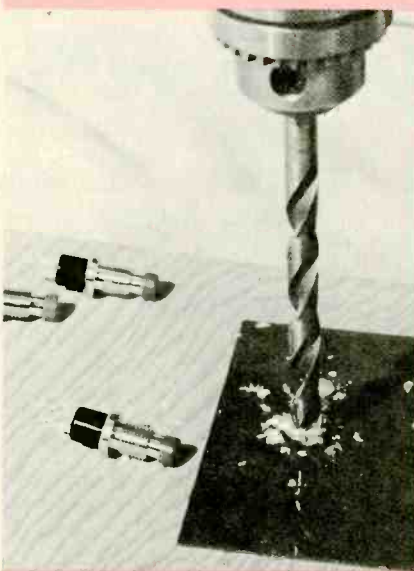

Fig. 3
Cutting holes is done with ordinary drill bits, as shown in Fig. 3. It is important to note that during the drilling operation, the sheet of plastic must be firmly held or clamped to a piece of wood to prevent it from riding up the bit and cracking. Square and rectangular slots can be made by drilling a small hole and cutting with a coping saw.
**Fig. 3** Acrylic is easily drilled by holding the plastic firmly to a wooden base. Here, holes are being drilled for pushbutton switches. Square and rectangular slots can be made by drilling a hole and cutting with a coping saw.
*Fig. 3. This audio distribution amplifier circuit features multiple isolated outputs and can be used effectively in electronic musical instruments to achieve special effects.*
In contrast to the multiple input mixer described earlier (Fig. 1D), the audio distribution amplifier circuit illustrated in Fig. 3 features multiple isolated outputs. It can be used effectively in electronic musical instruments for special effects as well as in PA, music distribution, and intercom systems requiring multiple drives for several power amplifiers to achieve high output levels. It also can be used in light organ, audio control, and test instrument designs. Abstracted from 20-page Bulletin CB-248, published by Texas Instruments, Inc. (P. O. Box 5012, Dallas, TX 75222), the distribution amplifier employs a type TL084 quad operational amplifier. A member of TI's BIFET family, the TL084 comprises four identical JFET input op amps in a single 14-pin DIP. The device can be operated on dc supply voltages of up to  $\pm 18$  V, with each amplifier section offering an input impedance of  $10^6$  megohms, a unity gain bandwidth of 3 MHz, a slew rate of 12V/ $\mu$ s, internal compensation, and continuous integral output short-circuit protection. Individual amplifier pin connections are not identified in the schematic diagram because the amplifier sections are interchangeable and the final selection can be made best by the equipment designer to achieve optimum layout and lead